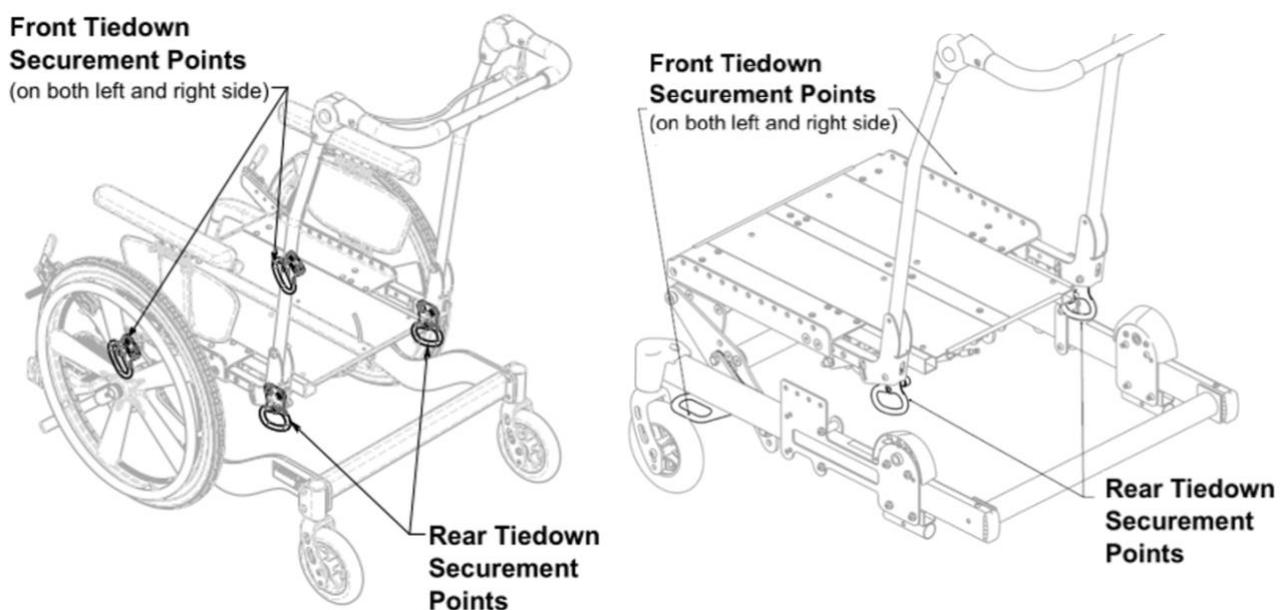

Figure 15.53: Reverse Bentley LT-R and Regular Bentley Transit Tiedown 4-point Securement Location
4. The Bentley Transit Tiedown System is designed for a four-point (two front, two rear) strap-type tiedown system (Figure 15.53). Attach the WTORS in accordance with the manufacturer's instructions and RESNA WC-4:2012, Section 18 or ISO 10542-1:2012- Part 1.